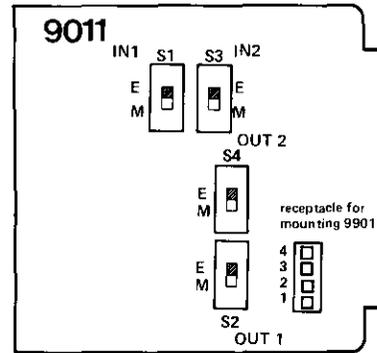

figure 5. Switch locations on the 9011 module
3.06 Four slide switches, S1 through S4, are used to adapt the module for its various E-lead and M-lead input and output states. Each switch may be set to position "E" or position "M", as labeled on the printed circuit board adjacent to the switch. See figure 5. The input mode (E or M) to circuit 1 is selected by switch S1 and the output mode by switch S2. Circuit 2 input mode is selected by switch S3 and its output mode by switch S4. Select the input and output modes required by your application. (For example, if the 9011 is to be used in a standard Pulse Link Repeater application, set input switches S1 and S3 to position E and output switches S2 and S4 to position M.) Refer to paragraphs 2.04 through 2.06 for an explanation of standard application input and output modes.
3.07 In two-way applications not requiring the optional 9901 Pulse Corrector, insert a short jumper wire between positions 2 and 3 of the 4-pin receptacle on the 9011 module (see figure 5).